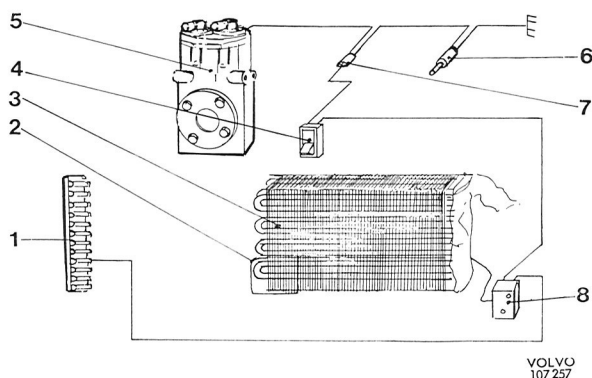

Fig. 8-48. Wiring diagram for air conditioning
The unit is started by the switch (4, Fig. 8-48) on the instrument panel inside the vehicle. When the current is switched on, the electromagnetic clutch and the compressor (5) start operating. A cut-out thermostat (8) is installed at the evaporator in order to prevent it from icing.
Belonging to the unit control system is the cut-out thermostat, whose function is to prevent evaporator icing. The thermostat is placed at the evaporator and is provided with a capillary tube (2, Fig. 8-48) which is inserted between the evaporator fins (3). When the vapor temperature has dropped to $+3^{\circ}\text{C}$ (37°F), this actuates the capillary tube thermostat so that current to the compressor clutch is cut off and the compressor stops. When the temperature of the evaporator again rises, this cuts in the current and the compressor starts working again.